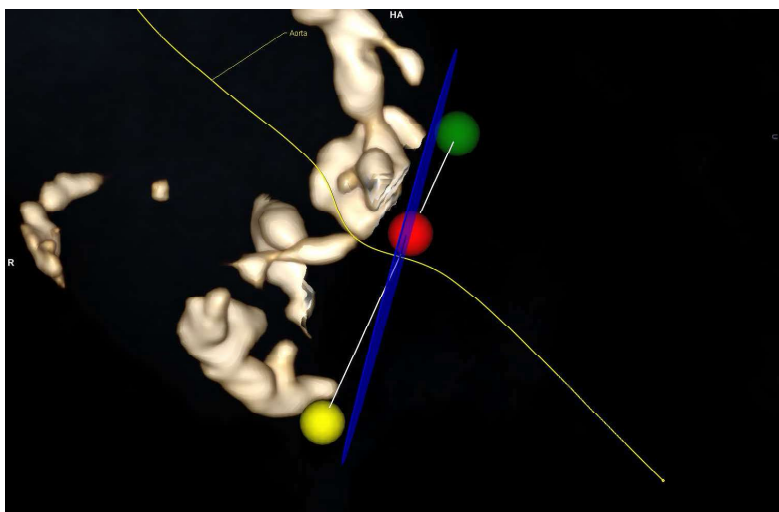

Fig. 1: VRT segment with angular misaligned measurement-plane (blue) and annulus-plane (white) in a worst case situation
When evaluating the annular dimensions the operator has to ensure that the measurement plane is optimally aligned with the annulus plane. This can be checked in the VRT segment as shown in Fig. 1. For this check, the operator has to move to the annulus plane by pressing the button "Annulus Plane". By activating the vessel diameter measurement tool a blue measurement plane will be displayed and can be compared with the white annulus plane. If they are not aligned, as seen in Fig. 1, any measurements using the cross-sections of the curved planar reformation may not be accurate.
**Important:** If the operator recognizes a significant deviation of two planes as shown in Fig. 1, it is absolutely essential to avoid any measurements in the CPR segments using the cross-sections at the annulus plane.